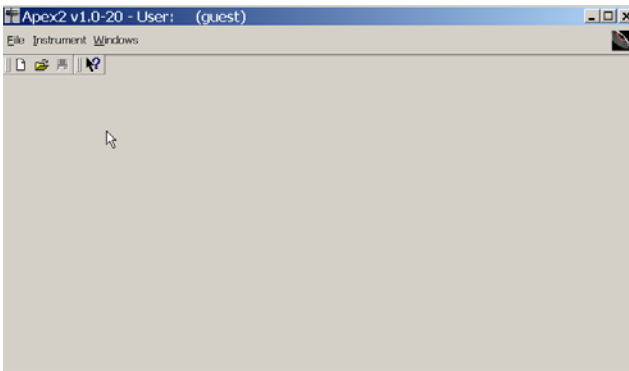

Figure 4.9 - APEX2 start-up window
3. An empty start-up window will appear (see Figure 4.9).